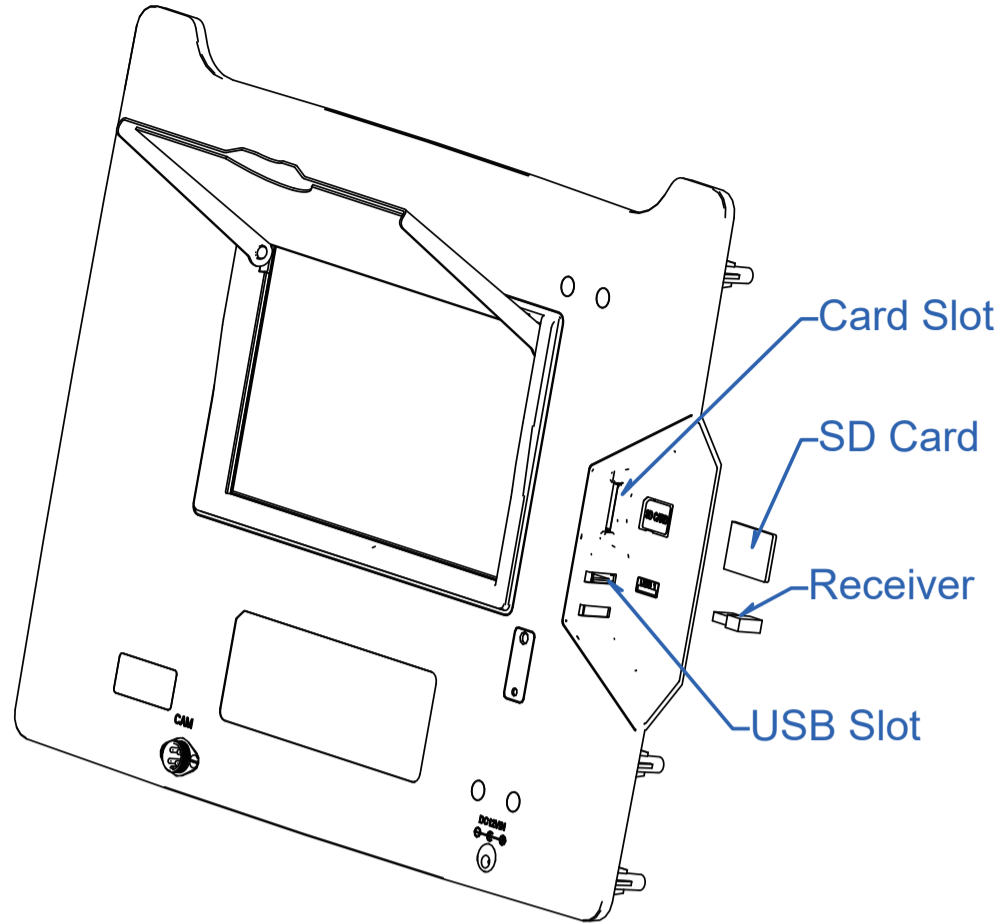

Figure 12. Install SD Card
3. Install SD card and wireless receiver. (Figure 12.)